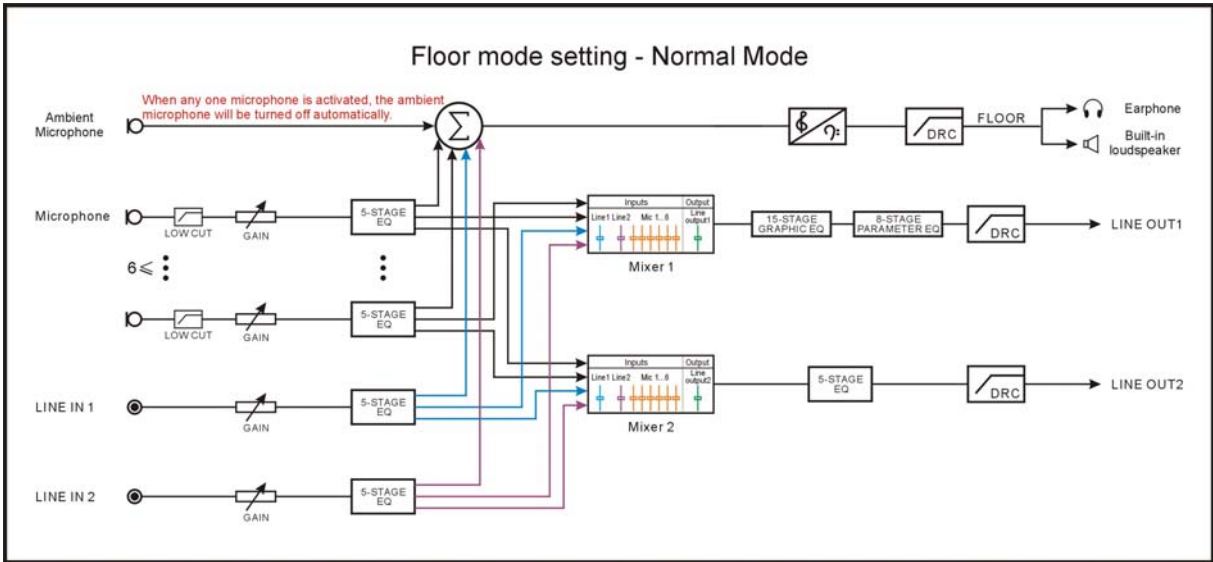

Figure 2.8 Floor mode setting - Normal Mode
- **Normal Mode:** the signal on LineIn1 and LineIn2 of the CMU are added to the floor signal, see figure 2.8;